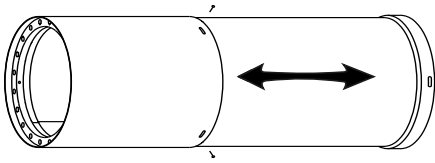

Figure 6
5. Telescoping Pipe (Figure 6)